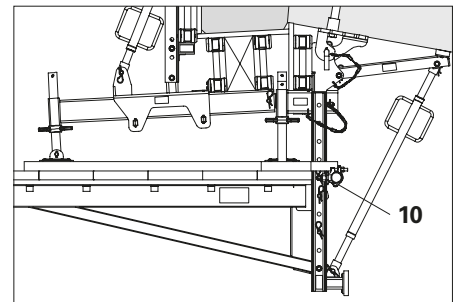
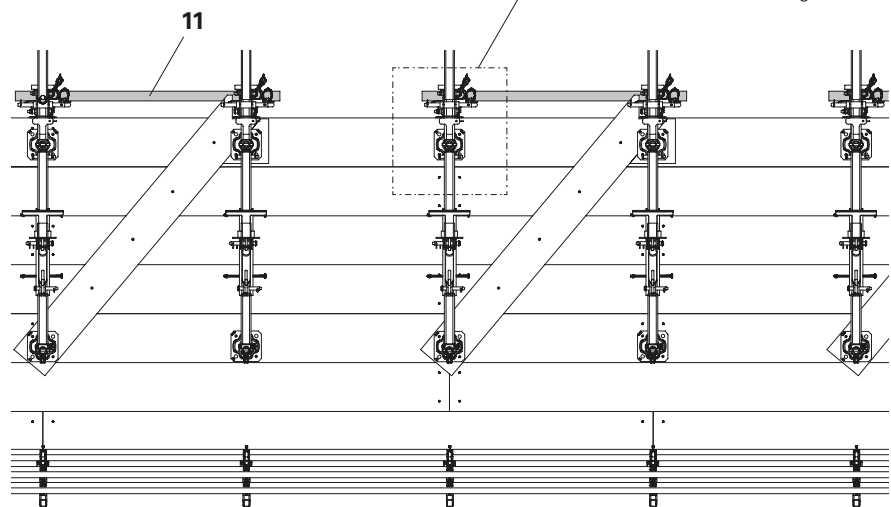

Fig. A8.02a
Fig. A8.02
3. Align console brackets and tighten Bracing Connectors VGK (**10**), AF 19. (Fig. A8.02 + Fig. A8.02a)